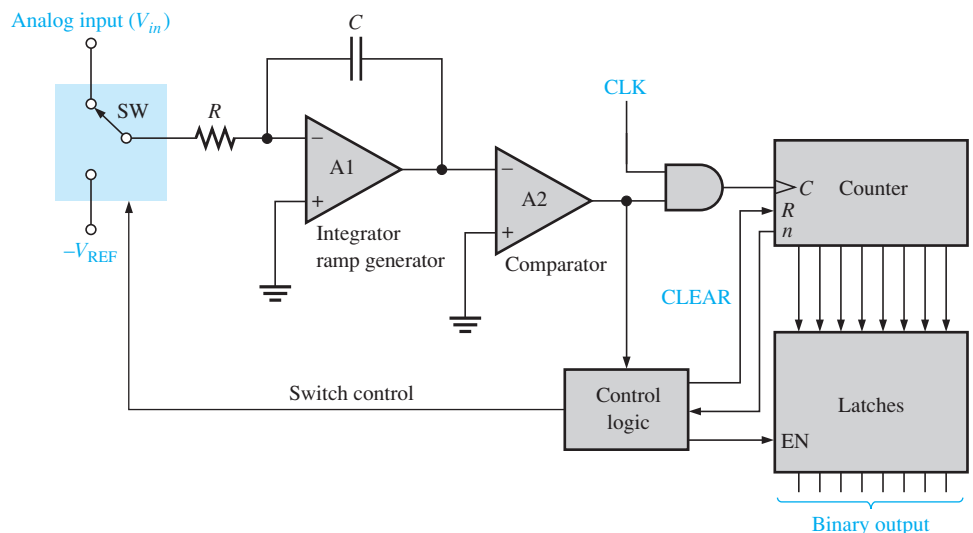

FIGURE 14–36 Dual-slope ADC.
A ramp generator (integrator), A1, is used to produce the dual-slope characteristic. A block diagram of a dual-slope ADC is shown in Figure 14–36 for reference.
Figure 14–37 illustrates dual-slope conversion. Let's assume that the counter is reset and the output of the integrator is zero. Now assume that a positive input voltage is applied to the input through the switch (SW) as selected by the control logic. Since the inverting (–) input of A1 is at virtual ground, and assuming that V_{in} is constant for a period of time, there will be constant current through the input resistor R and therefore through the capacitor C . Capacitor C will charge linearly because the current is constant and, as a result, there will be a negative-going linear voltage ramp on the output of A1, as illustrated in Figure 14–37(a).
When the counter reaches a specified count, it will be reset, and the control logic will switch the negative reference voltage ($-V_{REF}$) to the input of A1, as shown in Figure 14–37(b). At this point the capacitor is charged to a negative voltage ($-V$) proportional to the input analog voltage.
Now the capacitor discharges linearly because of the constant current from the $-V_{REF}$, as shown in Figure 14–37(c). This linear discharge produces a positive-going ramp on the A1 output, starting at $-V$ and having a constant slope that is independent of the